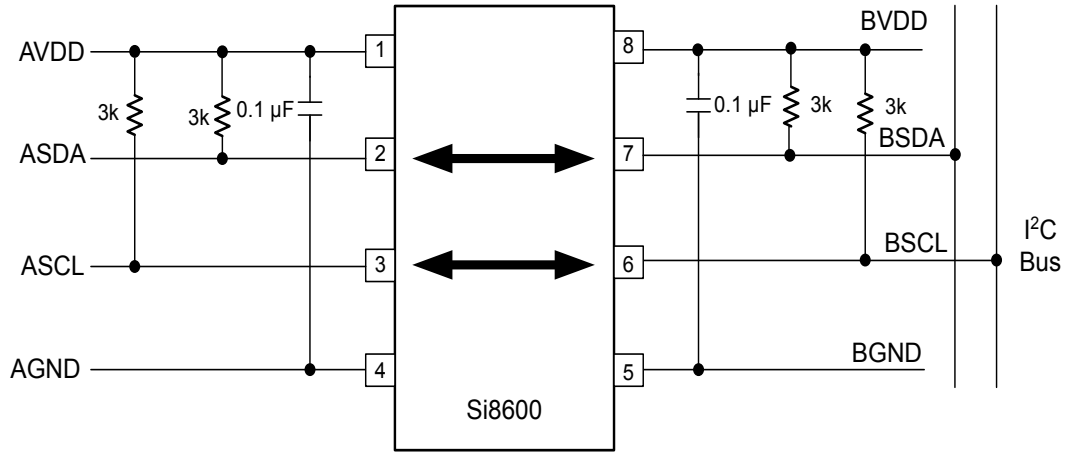

Figure 3.2. Typical Si8600 Application Diagram
3.0 V < VDD < 5.5 V. T_A = -40 to +125 °C. Typical specs at 25 °C (See Figure 5.2 Simplified Timing Test Diagram on page 18 and Figure 3.2 Typical Si8600 Application Diagram on page 8 for test diagrams.)